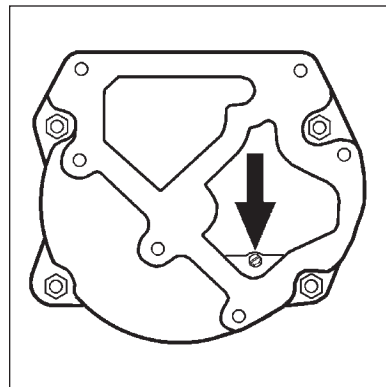

Figure 3
- Attach ground wire using the green ground screw located inside the electrical box (Figure 3). Connect the power cable to the pump wiring per the wiring diagram located inside the electrical coverplate. Secure with wire nuts.